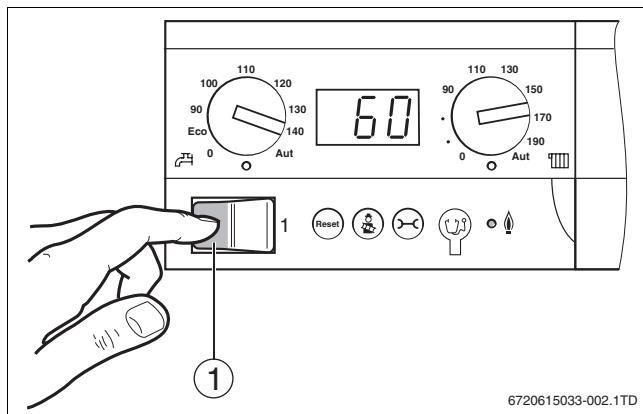

Fig. 1
- Switch off the heating system using the main switch (→ fig. 1).